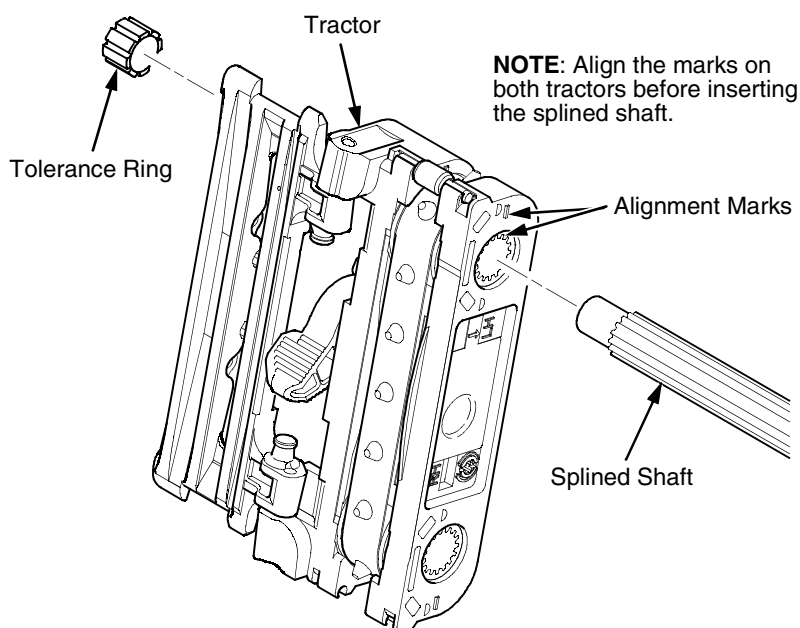

Figure 39. Splined Shaft and Tractor Installation
1. Open the doors on the left and right tractors. Position the tractor belts so the alignment marks are at the top on both tractors. (See Figure 39.)
2. Slide the splined shaft through the right side plate and tractors. Make sure the same spline passes the marked groove on each tractor. (See Figure 39.)
3. Install the tolerance ring on the left end of the splined shaft (page 278, item 5).
4. Insert the tolerance ring lead-in portion into the sealed ball bearing in the left tractor shaft plate (page 278, items 3, 5, and 6) while sliding the ball bearing into the right side plate. Push the splined shaft to the left until the flange on the ball bearing is in solid contact with the right side plate. The splined shaft will protrude about 1/16 inch (1.6mm) from the ball bearing.
5. Install the right tractor shaft plate and screw (page 278, items 7 and 8) by first sliding the upper “fingers” up and against the flange on the ball bearing, then sliding the rectangular cutout over the support shaft end, then snapping the U-shaped “spring” behind the tab on the right side plate.
8. Install the paper supports on the splined and support shafts. (See page 278, item 4.)